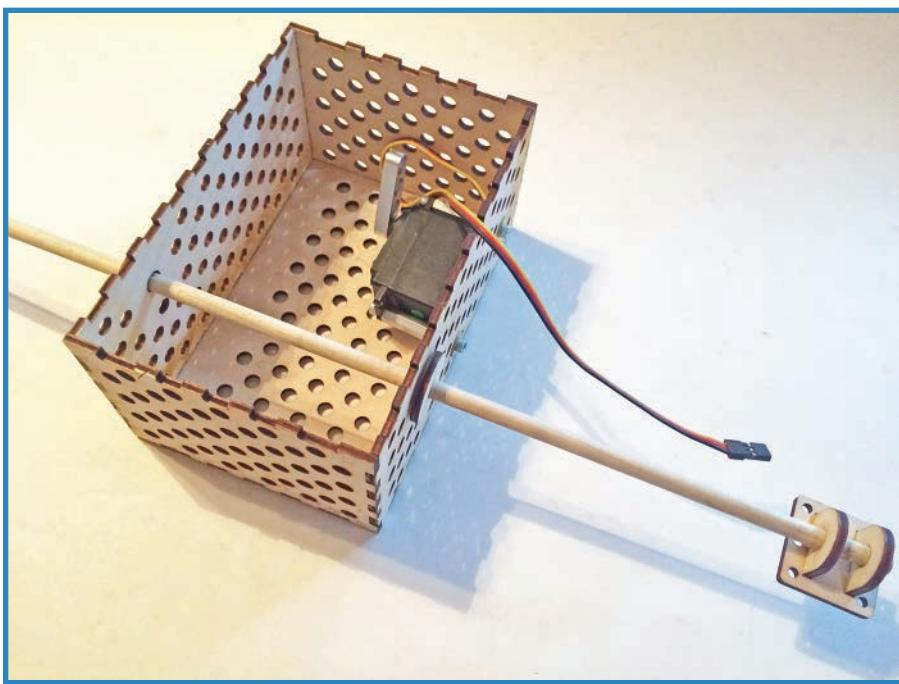

FIGURE 7.9 Glue the motor mounts into place.
4. Once all the glue is dry, slide the motor mounts onto the dowel and glue them into place, as shown in Figure 7.9. It probably goes without saying that the mounts should be oriented in the same direction.